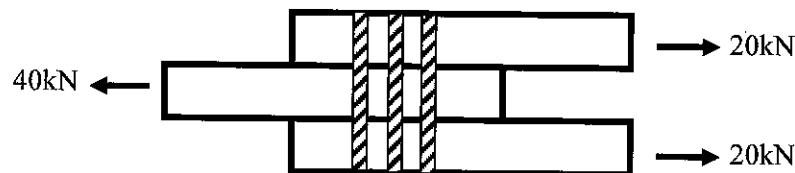

Figure B3(a) / Rajah B3(a)
- (a) Three steel plates as shown in Figure B3(a) are connected together by three bolts of 12mm diameter. Identify the value of shear stress.